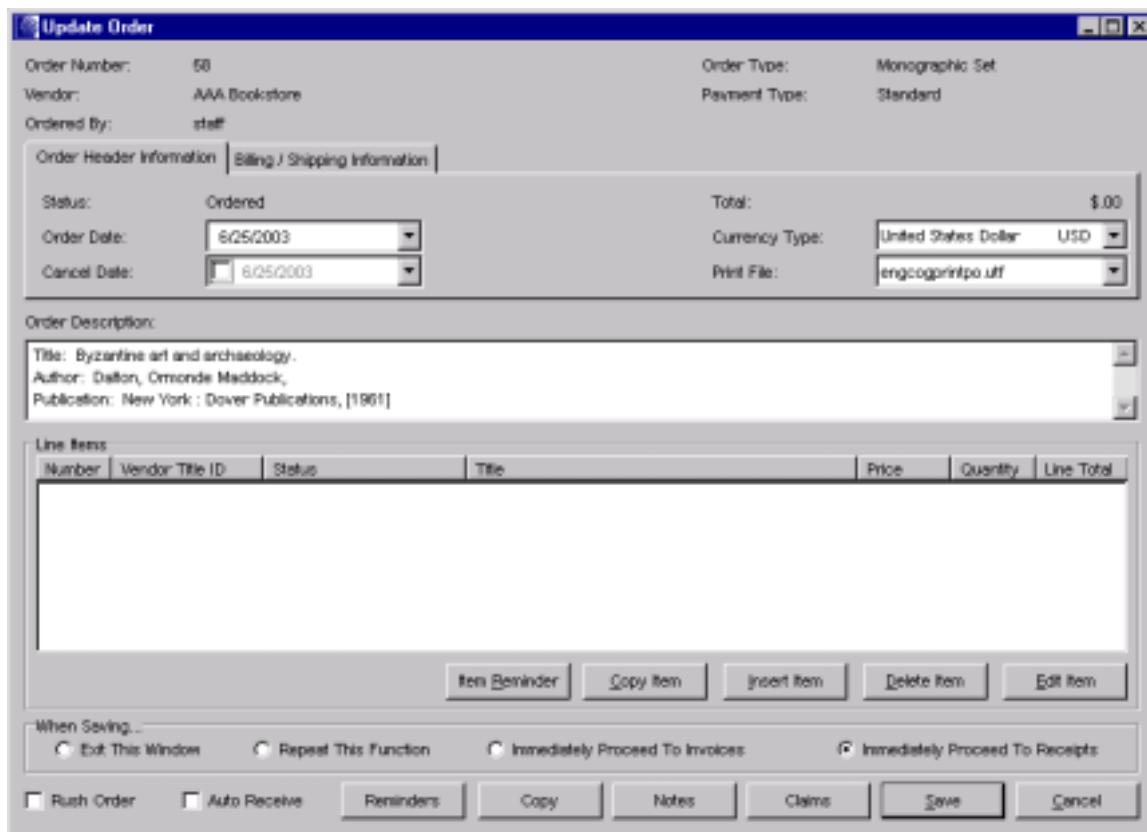

Figure 3-4. Update Order Window - Catch-All Order Group
- If the COG order has been transmitted, the Order Description field on the Update Order window (*Figure 3-4*) will be inactive. The line-item area will be active, so you can copy, insert, delete, and edit line items and add/edit item reminders.